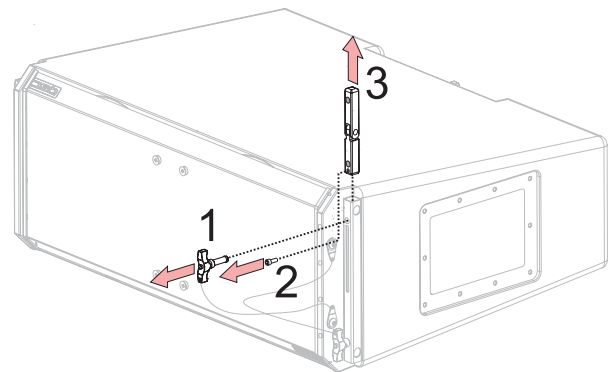

Figure 1. Removing the knuckle from the rigging channel.
1. **WL2102-w and WL218-sw only:** Remove the knuckle from the rigging channel by first unscrewing the TORX cap head screw and then sliding the knuckle out (see Figure 1). Note the orientation of the knuckle, to ensure proper reinstallation at the completion of this procedure.